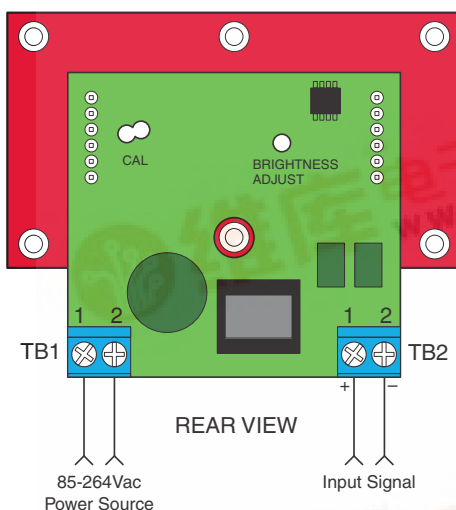

Figure 1. DMU-30ACV wiring diagram
3. Power Supply Polarity, Fusing, and Grounding: The power supply inputs, (TB1 and TB1-2) on DMU-30ACV voltmeters are not polarity sensitive, that is, they have no "AC LO" or "AC HI" designations. These units do not include or require a connection to earth/chassis ground. Refer to Figure 1 for a typical wiring diagram.